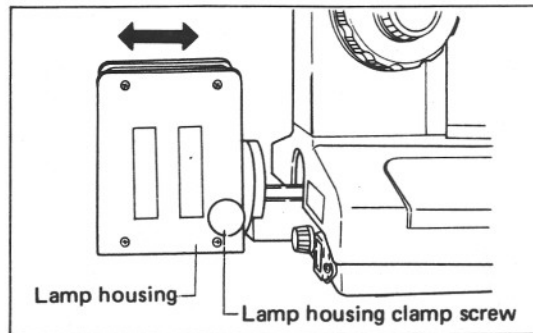

Fig. 6
- 8) Stop down the condenser aperture diaphragm, release the lamp housing clamp screw, and move the lamp housing back and forth (Fig. 6), until a sharp image of the lamp filament appears on the aperture diaphragm surface, which can be seen by the reflection from the ND filter.